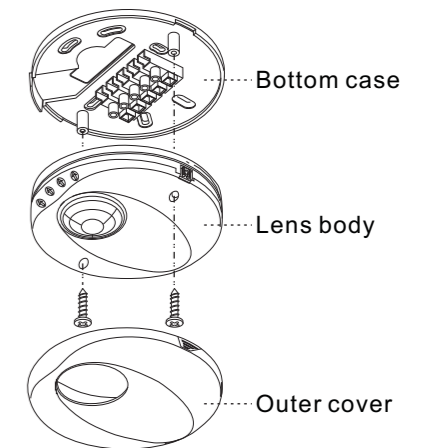

FIG.10
- 3.3.3 Remove the card board and accessories to assemble OS-463R / 463RA (See FIG.10).
3.3.5 Insert the lens body into the bottom case, fasten it with screws firmly, then cover the outer cover (See FIG. 10).